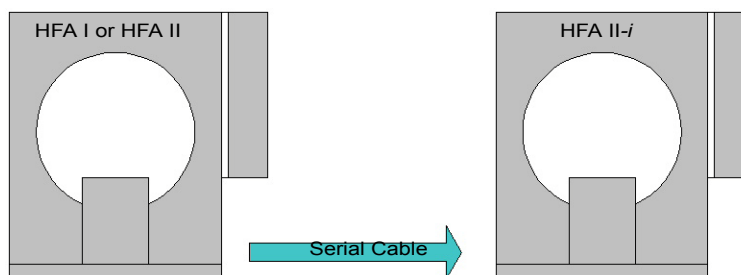
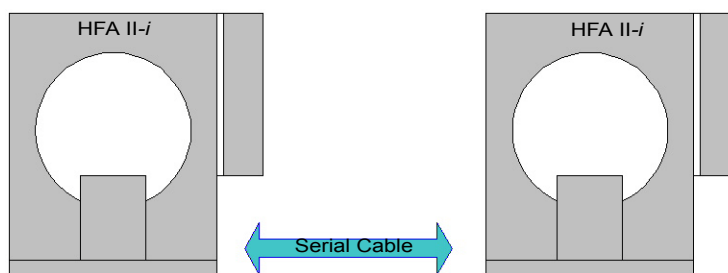

Figure 10.8 Serial Communication Between an HFA I or HFA II and an HFA II-i
Figure 10.9 Serial Communication Between an HFA II-i to and from an HFA II-i
The diagram in Figure 10.8 shows two HFAs that are connected directly by a serial cable. This approach allows data transfer from the Humphrey Field Analyzer I or II to an HFA II-*i*. In addition, two HFA II-*i* instruments can be linked via serial cable to allow data transfer as in Figure 10.9. Using HFA-NET Pro, an HFA II-*i* can connect to a computer network and transfer data to the computer and between other HFAs. This is discussed in Chapter 14.
Note: As is shown by the arrow in Figure 10.8, you only can transfer data out of either an HFA I or HFA II.
- HFA II-i to and from an HFA II-i (Figure 10.9)